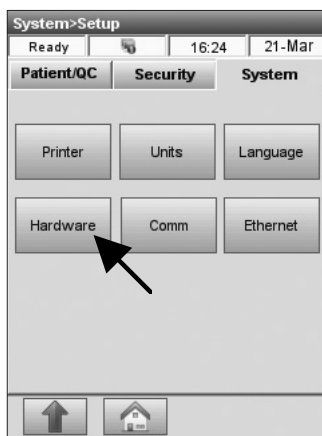

Fig. 3-81 Select Hardware
2. In the **<System Setup>** menu, press the **<System>** tab and then **<Hardware>** to select this function (Fig. 3-81).